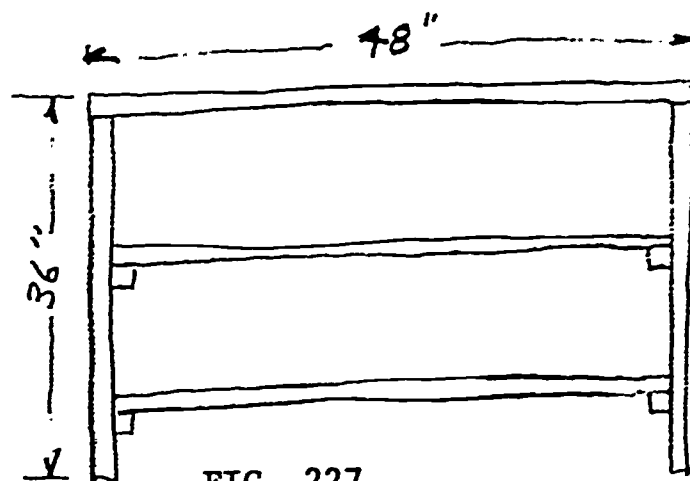

FIG. 227
4. Sketch simple diagram showing corners and measurements. See figure 227.